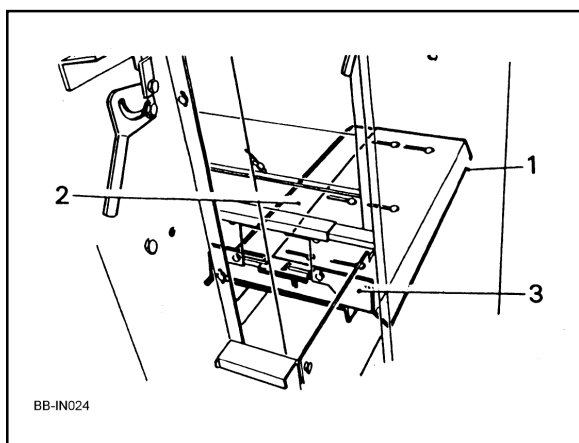

Fig 28
The adjustable LH cover plate (item 1, figure 28) should be bolted on top of the RH cover plate (item 2, figure 28) and set at the correct width to cover the centre hopper feed belt. The mounting bracket (item 3, figure 28) should then be bolted to the lug behind the front centre tie panel as shown. The cover plates can now be slid under the front of the hopper, from the inside, and bolted to the mounting bracket.